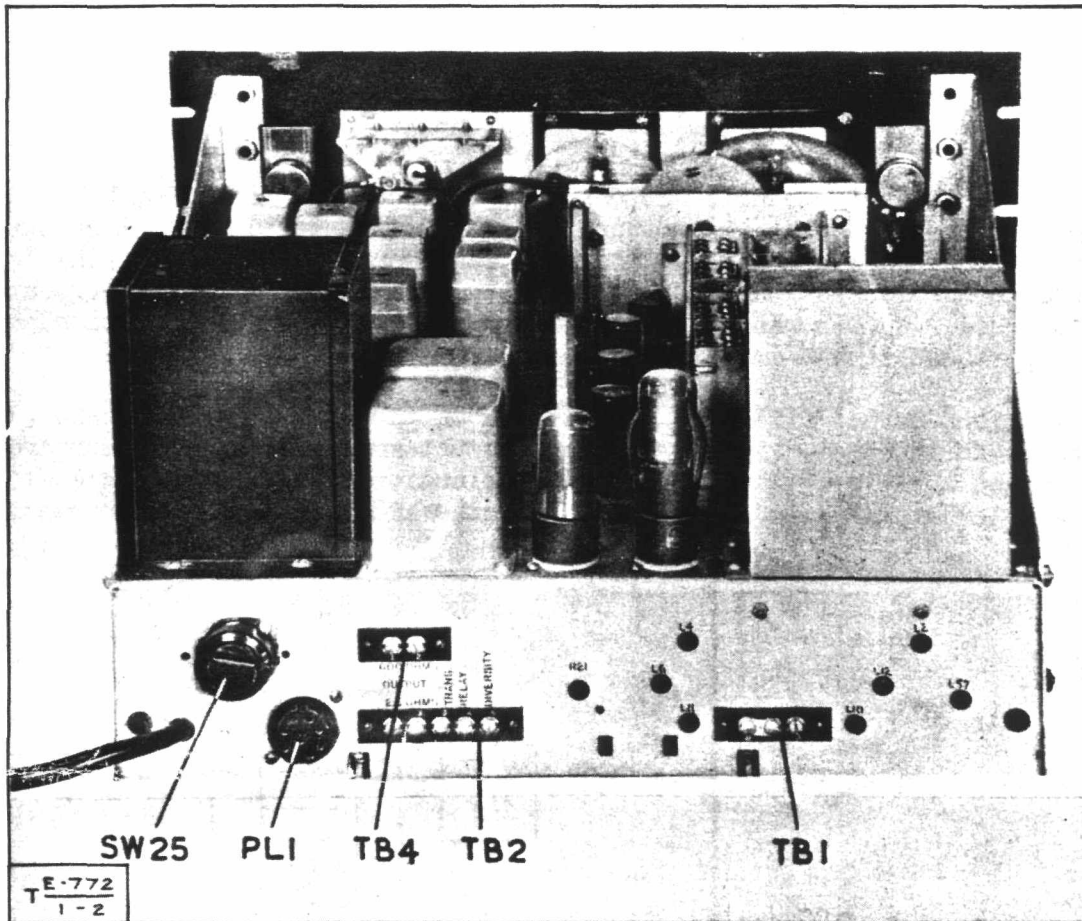

Fig 2 - AR88D - rear chassis view
10. A terminal marked DIVERSITY is provided on the rear of the chassis for diversity reception when required. A wire joining these terminals of two or more receivers having spaced aerials will tend to reduce selective fading (see Tels A 017, A 172). Figs 2 and 3 show the rear chassis views of the AR88D and the AR88LF respectively.